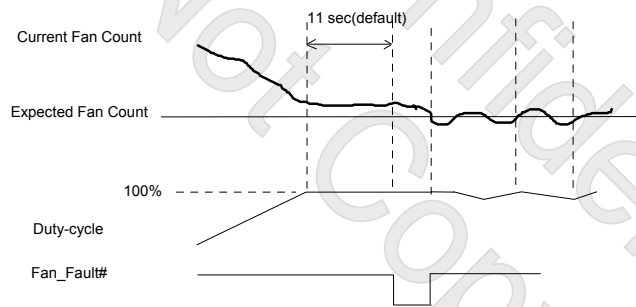

Figure 6-3
(1). When PWM_Duty reaches FFh, the fan speed count can't reach the fan expected count in time. (Figure 6-3)